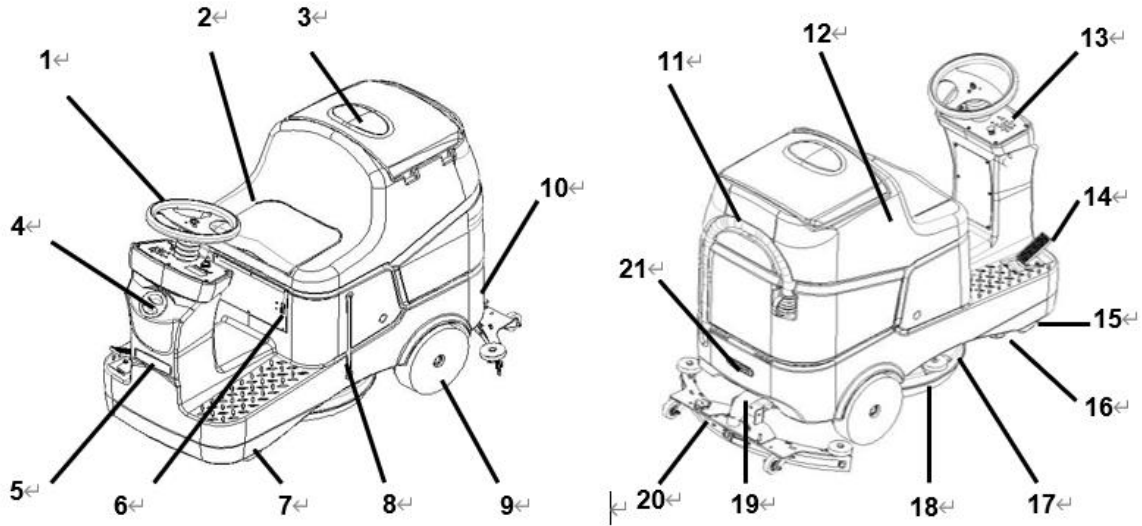

Figure 1
MACHINE STRUCTURE (as shown in Figure 1)
1. Open the recovery tank cover (3, Figure 1) and check the recovery tank (12, Figure 1) is empty, otherwise, empty it with drain hose (11, Figure 1).